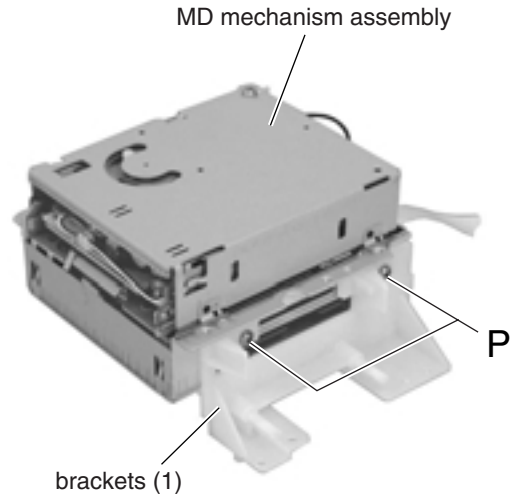

Fig.24
■ Removing the MD mechanism assembly (See Fig.24 to 26)
1. Remove the four screws **P** attaching the brackets (1) and (2) on the left and right side of the MD mechanism assembly.